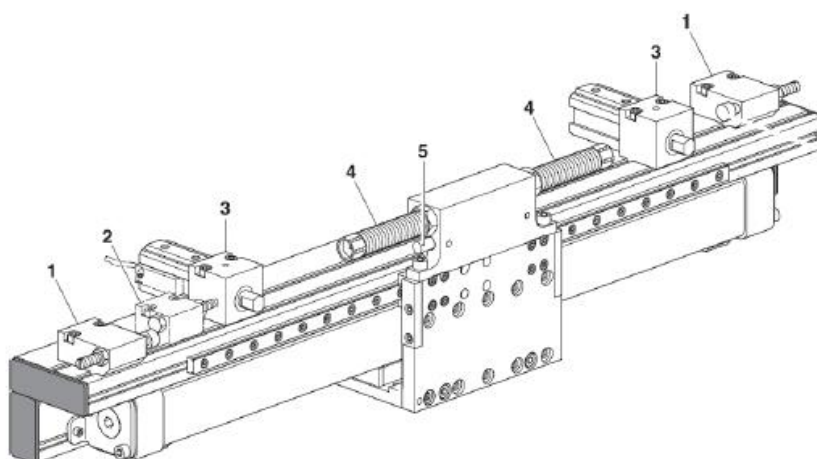

Fig. 23 Adjustment of stop screws PMP-c version 02
3. Adjust the stroke length using the end stops (Fig. 23, 1) and, if necessary, the fine adjustment (Fig. 23, 2).
4. Adjust the intermediate stops (Fig. 23, 3).
5. Adjust the shock absorber (Fig. 23, 2) (→ chap. 6.7).
6. Mount the proximity switches (Fig. 23, 3) (→ chap. 6.8)